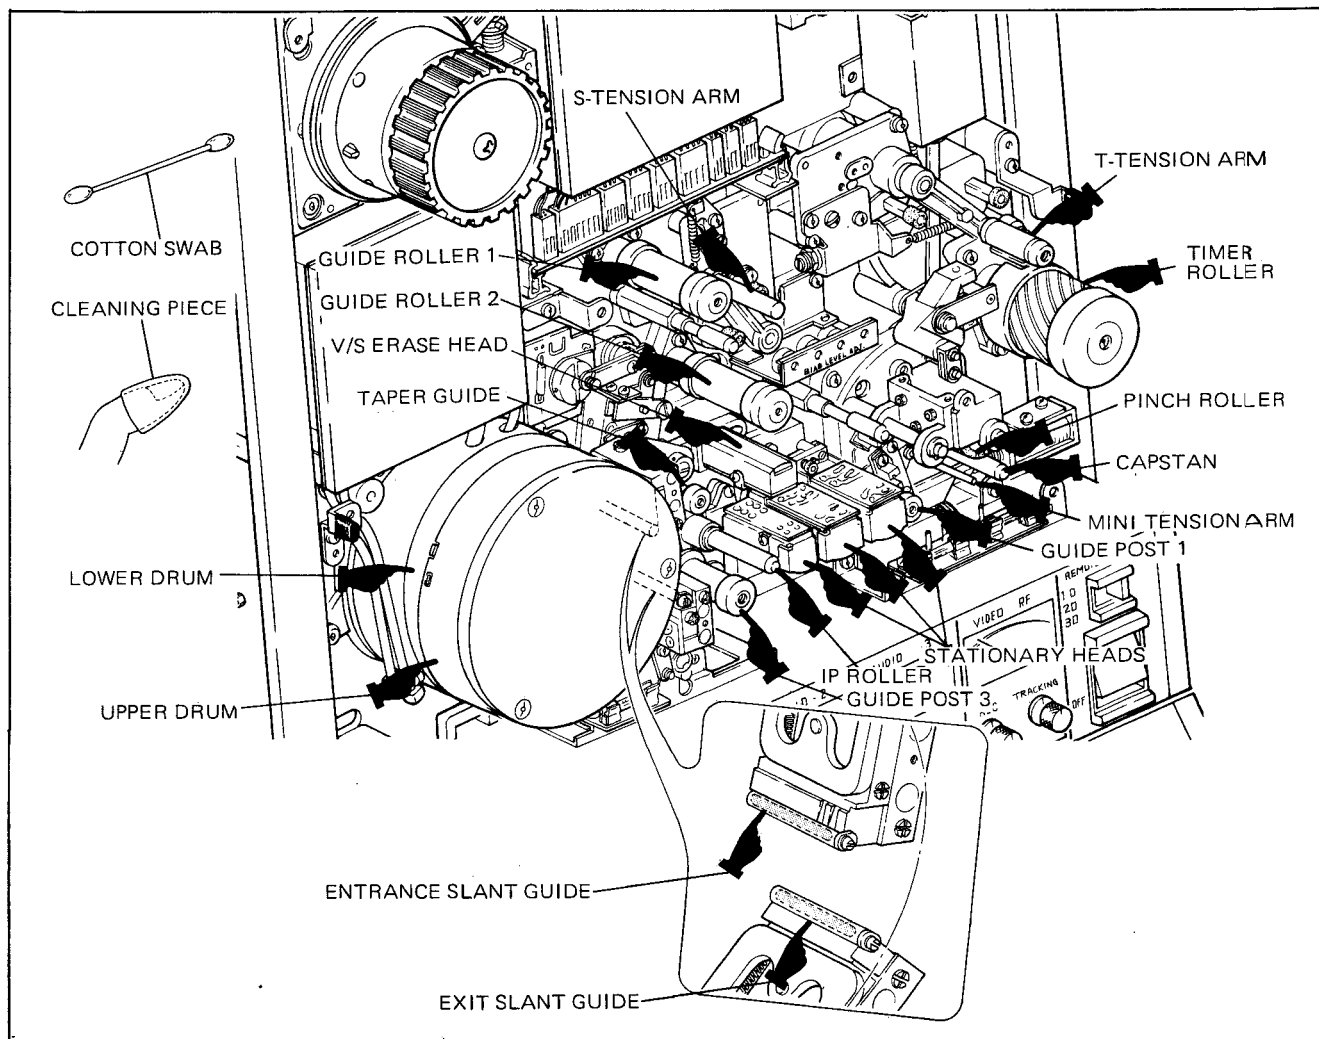

Fig. 3-1. Cleaning of the Surfaces of Guides and Heads on the Tape Path
1. Clean the surface of the parts shown with  in Fig. 3-1 with cleaning piece or cotton swab moistened with cleaning fluid (for example, FREON 113).